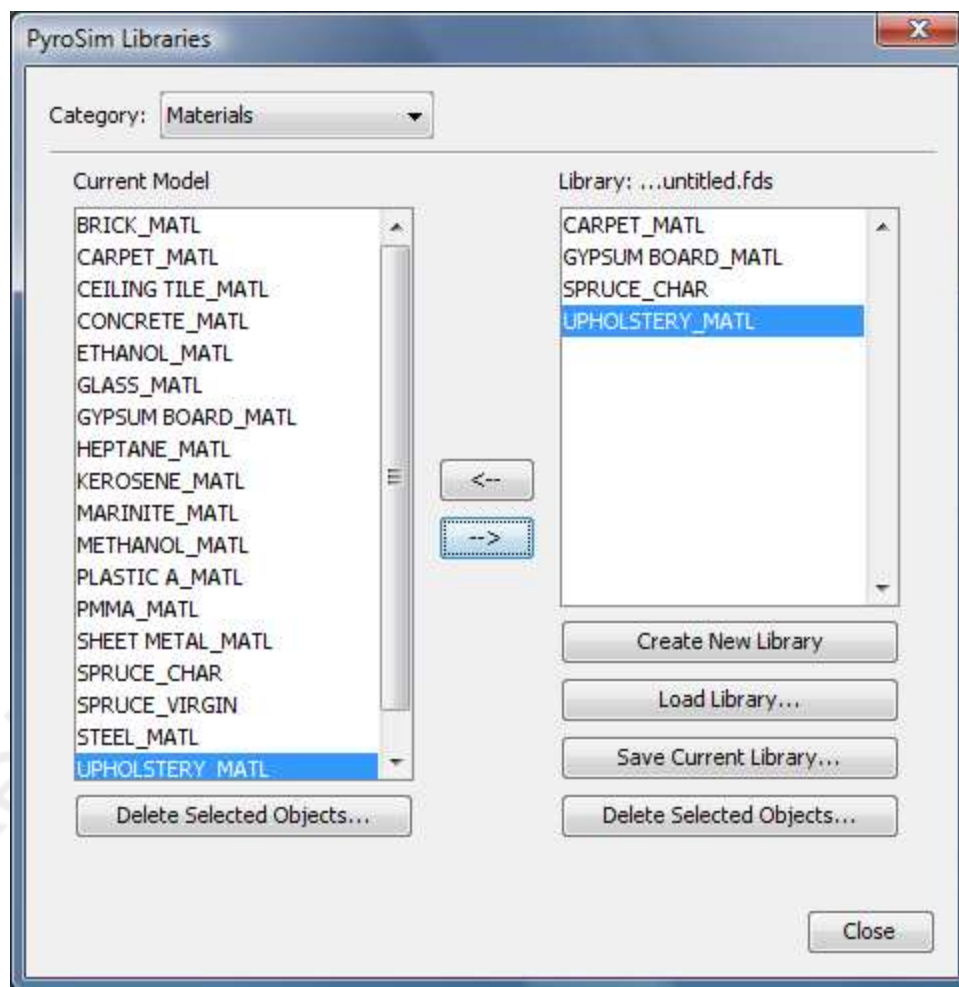

Figure 168. Creating a library of materials
2. Select the **Category** that you want to manage and move selected items from the **Current Model** into the **Library**, Figure 168.